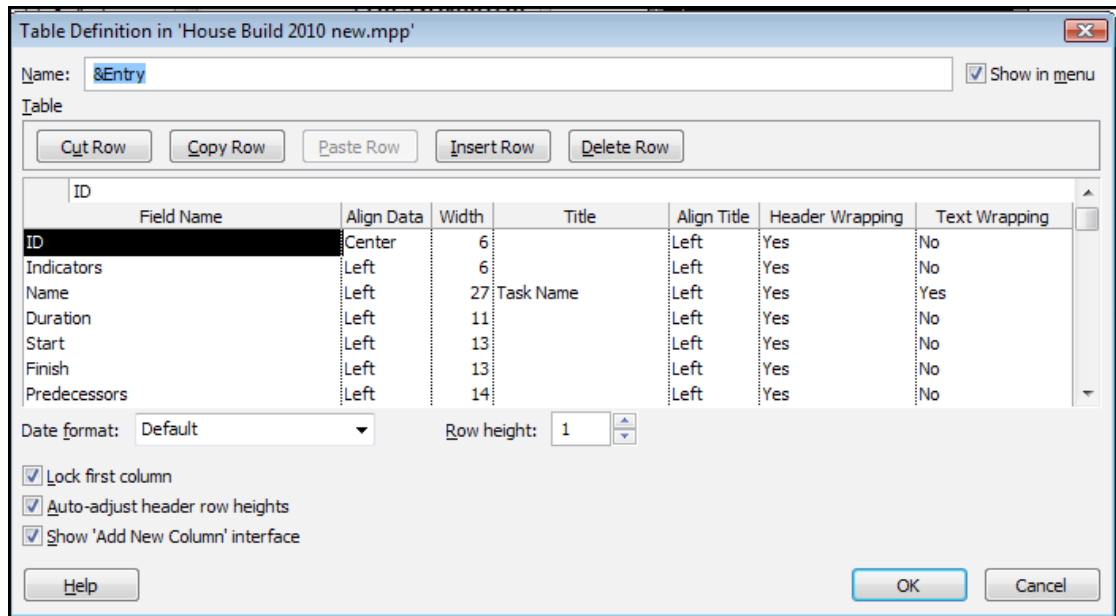

Figure 2-2: Table Definition
- iii. The following dialog box (Figure 2-2) will show a list of the fields that make up the table.